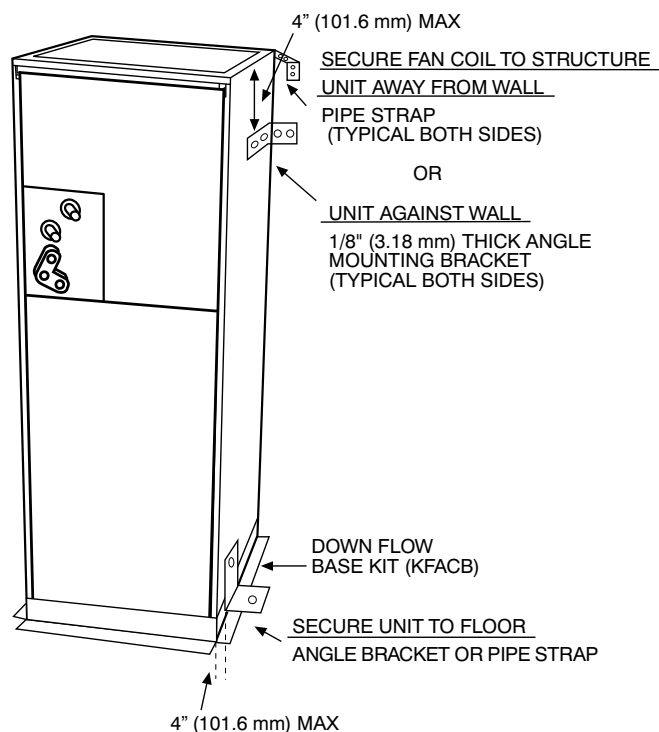

Fig. 7 – Mobile Home or Manufactured Housing Applications A07141
- b. If fan coil is against wall, secure fan coil to wall stud using 1/8-in (3 mm) thick right-angle brackets. Attach brackets to fan coil using no. 10 self-tapping screws and to wall stud using 5/16-in. lag screws (Fig. 7).